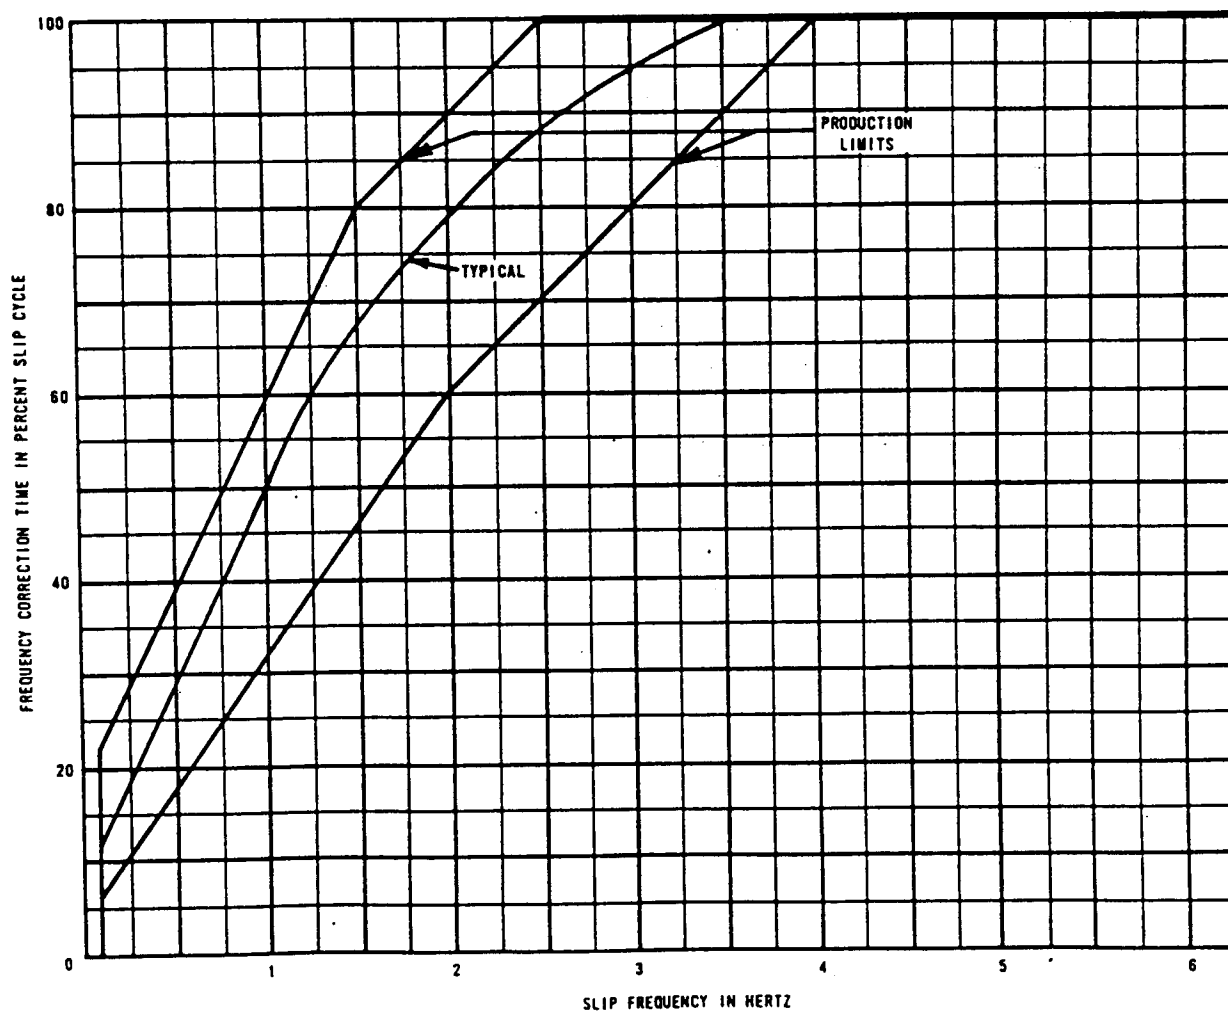

FIGURE 2-4: TYPICAL FREQUENCY CORRECTION
FREQUENCY CORRECTION "ON" TIME: See Figure 2-4.
2.4.5 Figure 2-4 shows the production tolerances on Frequency Correction "On" time.